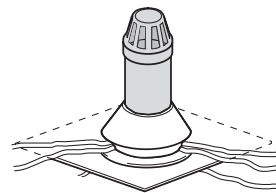

Fig.21d Steps 6/7
**Step 7** – Remove the vent cowl. Solvent-weld **131 Weathering Apron** to pipe above rubber cone to prevent water ingress (Fig.21d)